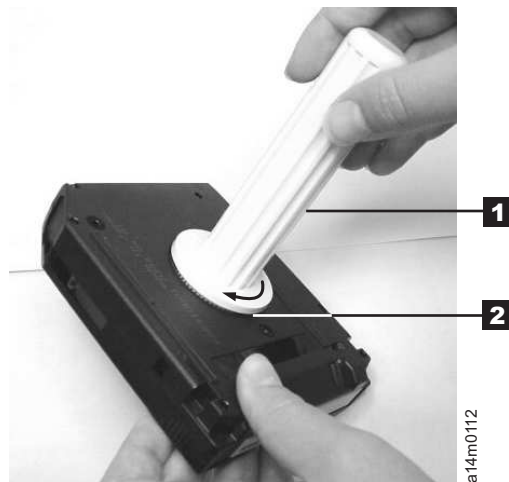

Figure 61. Rewinding the tape into the cartridge
5. To rewind the tape, insert the cartridge manual rewind tool (see **1** in Figure 61) into the cartridge's hub **2** and turn it clockwise until the tape becomes taut.